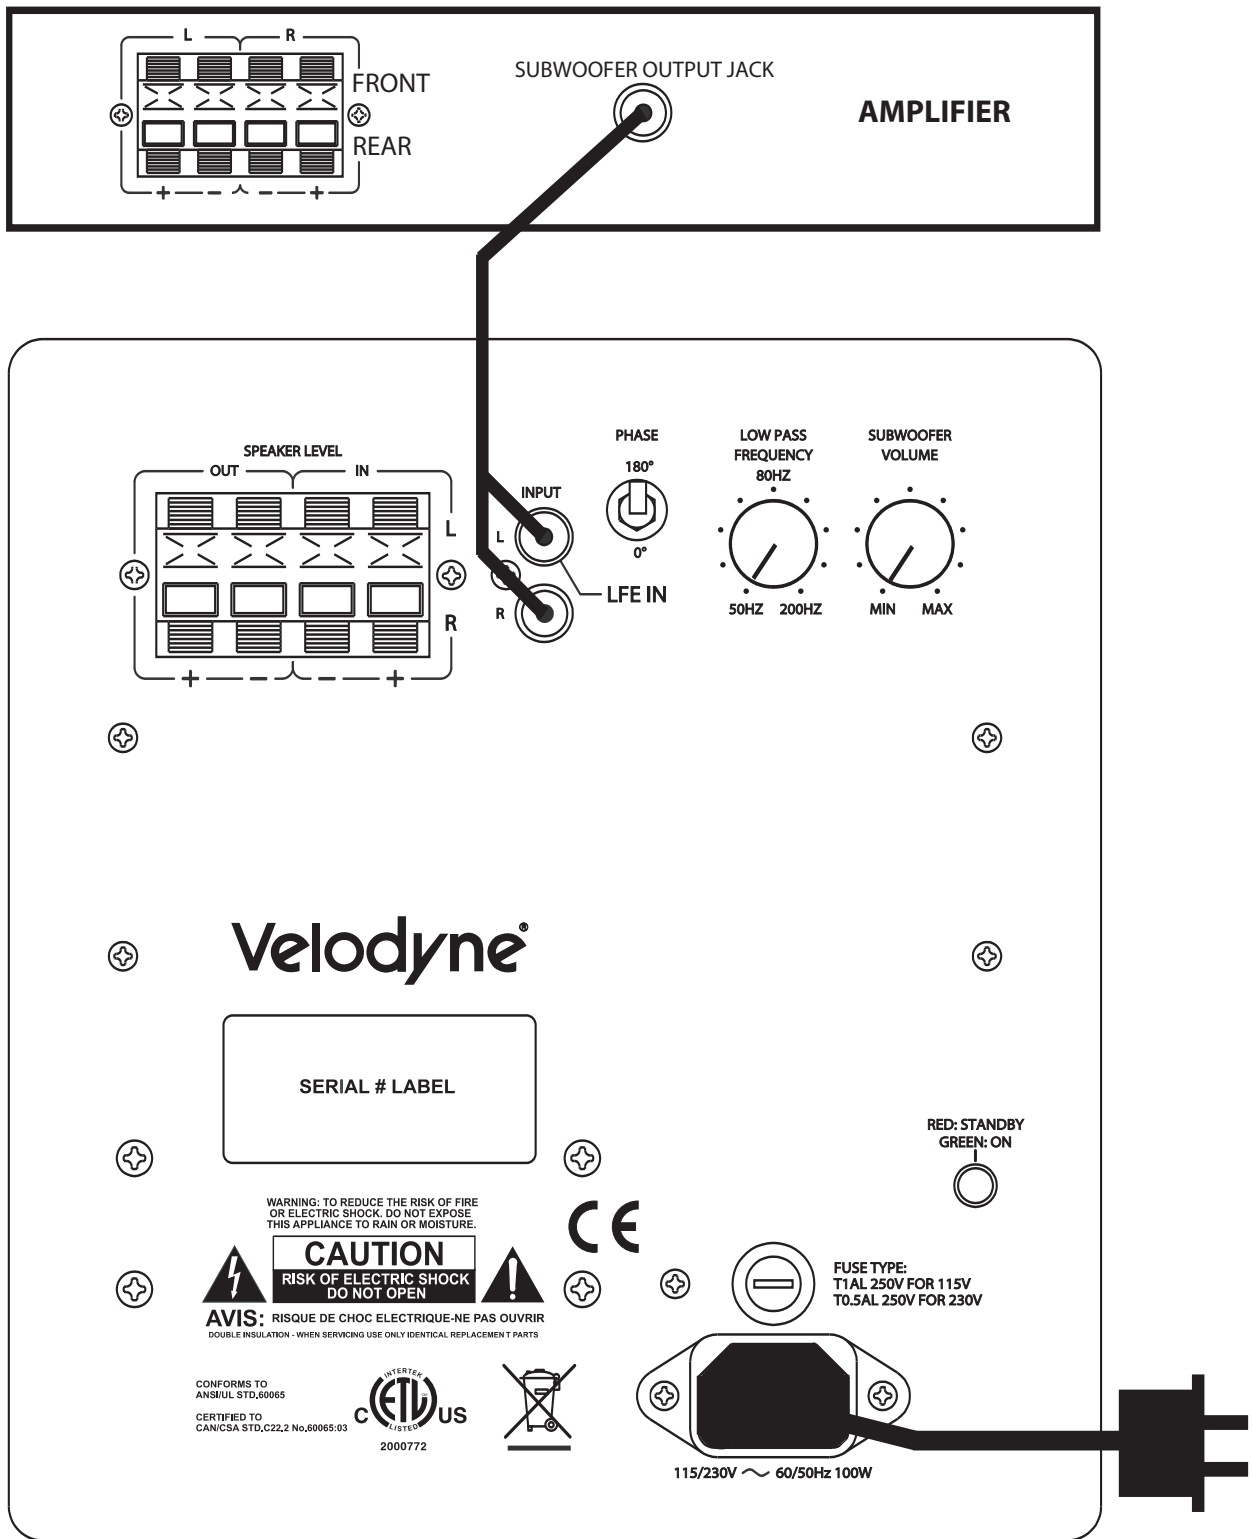
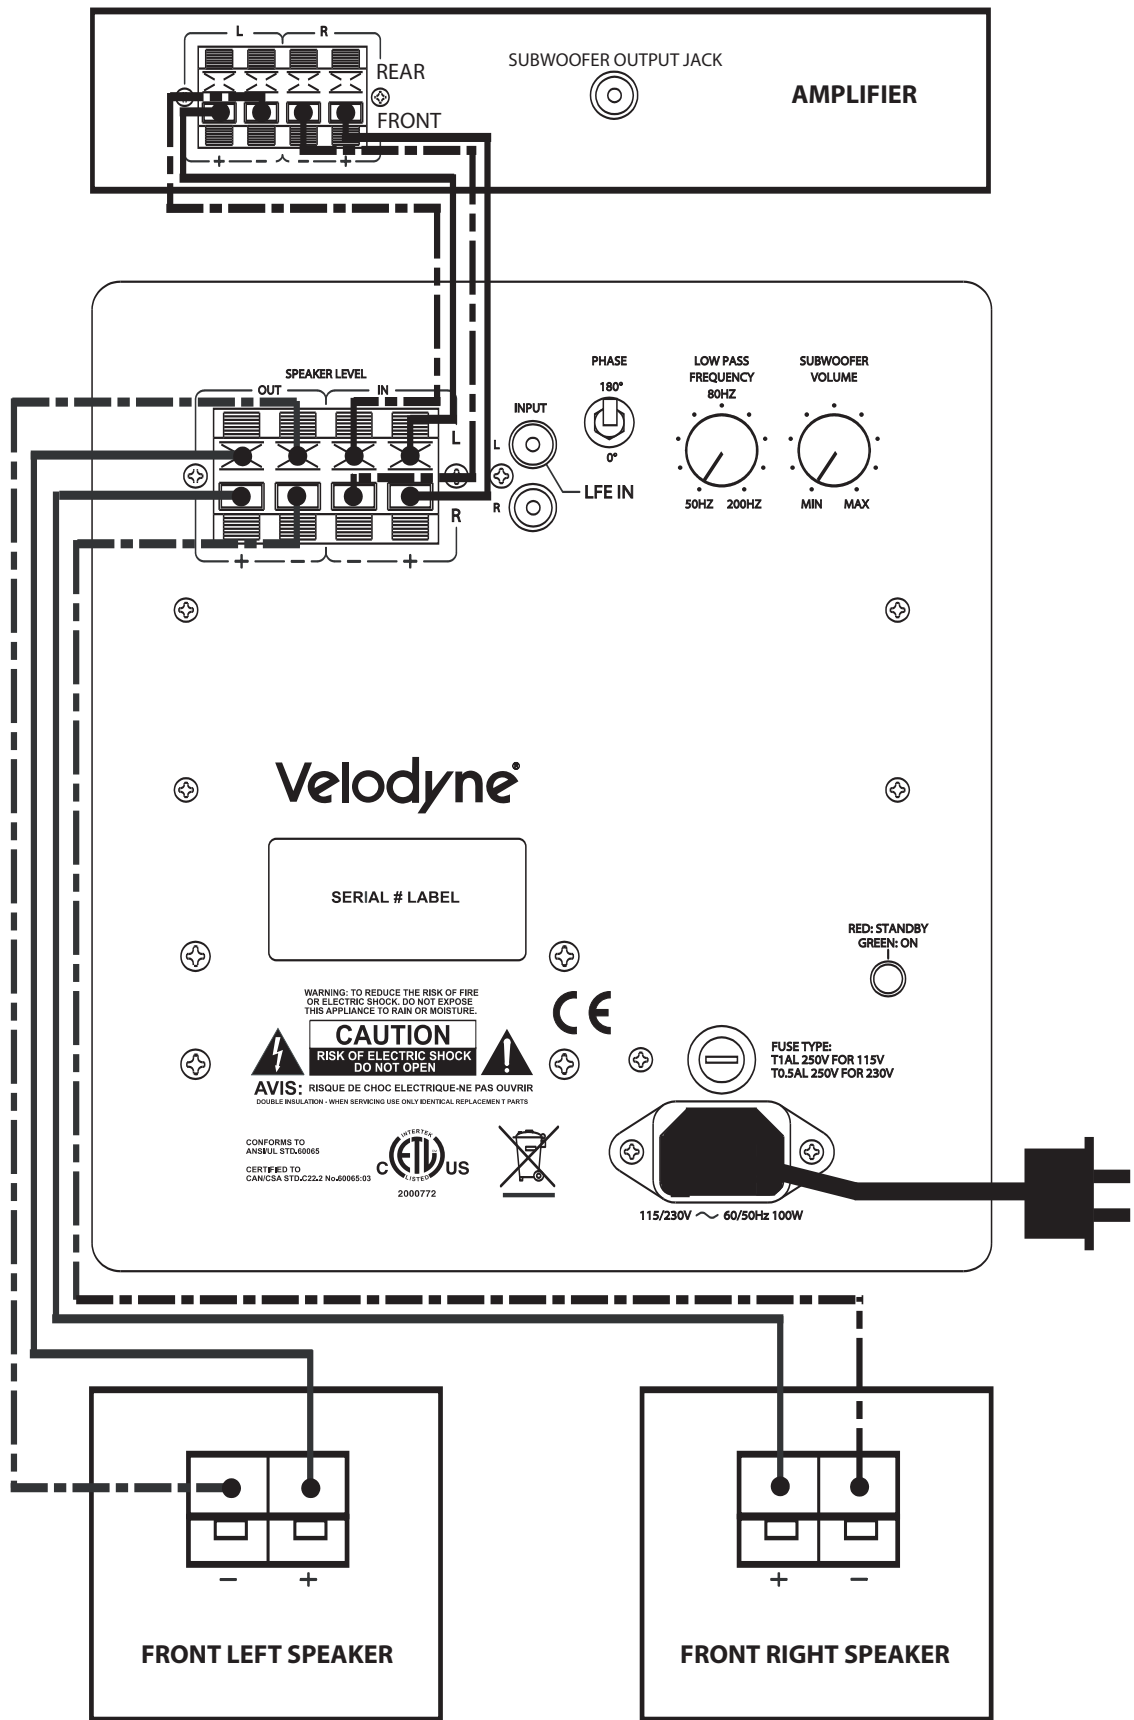

Figure 2a. Line-Level Subwoofer Connection Diagram
Figure 2b. Speaker-Level Subwoofer Connection Diagram
- 1) If using line level jacks, BOTH THE LEFT AND RIGHT INPUT CAN BE USED – never use just the left or just the right input. If the subwoofer's signal comes from the LFE channel of your receiver, use a "Y" splitter to connect to both the left and right inputs.* If using line level connections from a preamp or signal processor, use both Left and Right inputs from your preprocessor or preamp and connect them to the Left and Right inputs on your subwoofer. (See figure 2a on page 7.)
- 2) If using a receiver with LFE out, be sure the LFE channel is sending adequate signal to the subwoofer. We recommend setting the subwoofer's level to the 9 o'clock position (the 1/4 volume setting) and then adjust the LFE channel on your receiver or processor to achieve the desired bass output. See your receiver or processor's owner's manual for more information. (See figure 2b on page 8.)
(Refer to Figure 2a Line-Level Subwoofer Connection Diagram and Figure 2b Speaker-Level Subwoofer Connection Diagram, pages 7 and 8 for connection diagrams.)